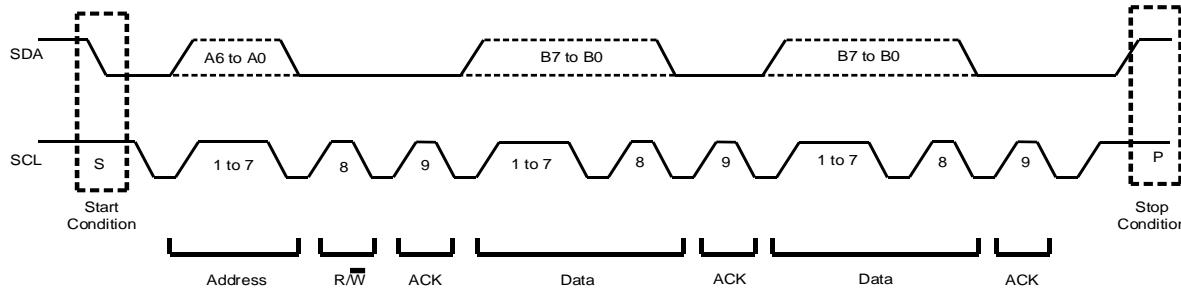

Figure 8: Data Transfer across the Digital Interface
The start and stop commands are signaled by the master device, which signifies the beginning and end of the digital interface transfer. A start command (S) is defined as the SDA signal transitioning from high to low while SCL is high. A stop command (P) is defined as the SDA signal transitioning from low to high while SCL is high (see Figure 8).